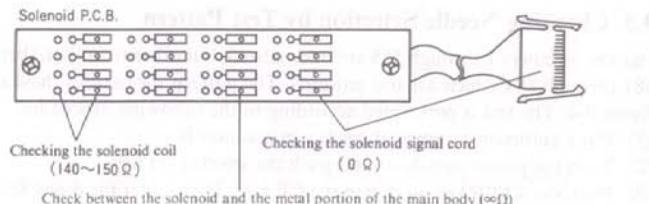

Figure 9-3
- ③ Disconnect the needle selector solenoid unit (refer to on P.45 item 11). Check the resistance values of the places which correspond to the solenoids on the solenoid PC board which were found to be bad. The resistance value of the solenoid coil should be between  $140 - 150 \Omega$ , the resistance value of the solenoid signal cord should be  $0 \Omega$ , and the resistance value of the metal portion of the main body and the solenoid should be  $\infty \Omega$  (refer to figure 9-3).